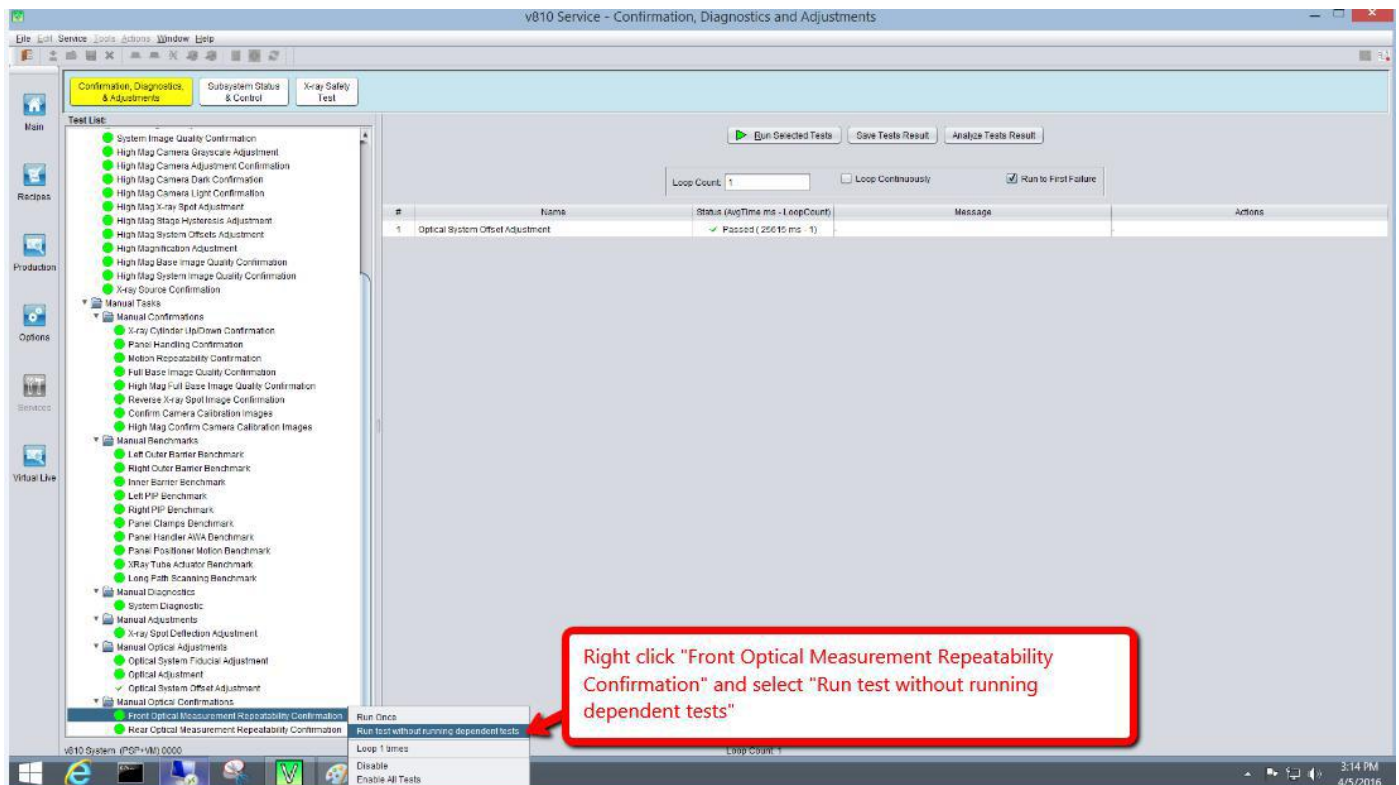

Figure 29 Front Optical Measurement Repeatability Confirmation
22. At **Confirmation, Diagnostics and Adjustment (CD&A)**, under the **Manual Optical Confirmation**, right click **Front Optical Measurement Repeatability Confirmation** and select **Run test without dependent tests** as shown in the Figure 29.